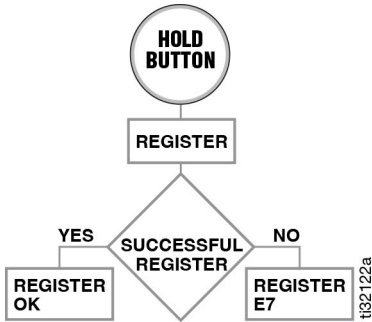

FIG. 3
3. The display reads REGISTER OK (FIG. 3, page 6) when the TLM is registered with the Pulse software. This may take up to 20 seconds.
If the TLM did not register with the Pulse software, the error message REGISTER E7 displays (see Step 1, FIG. 3).